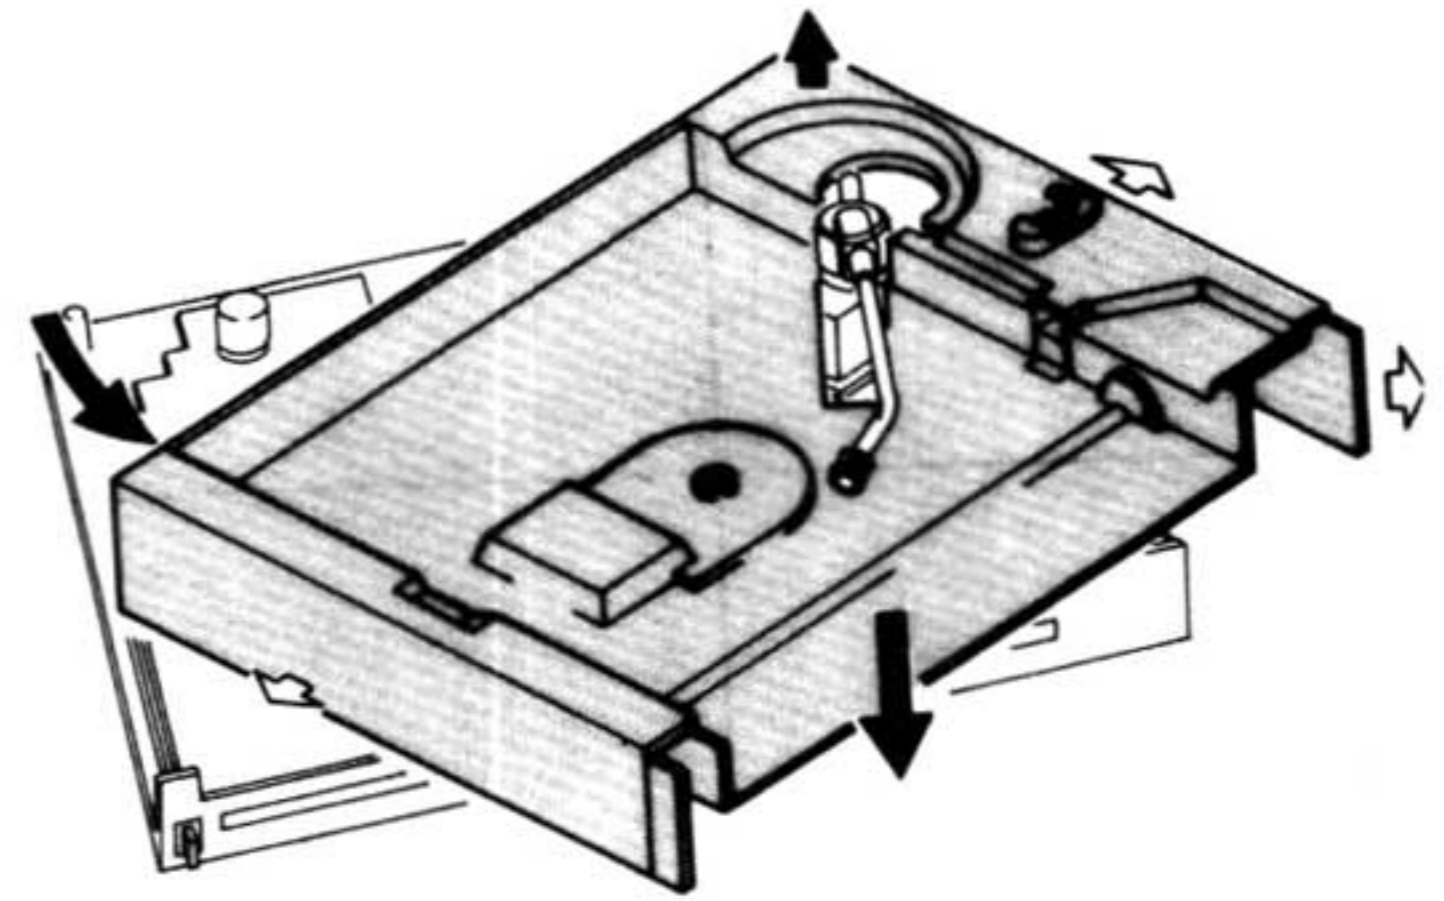

Fig. 5
- 5) While turning the main cabinet back and forth and from side to side, pull the main cabinet off in the direction of the weight shaft. Since removal of the main cabinet is difficult, do not try to force it. (See figure 5)